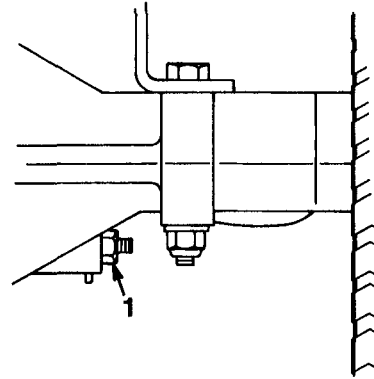

Figure 25
The brake is on the right side of the rear axle, inside the rear tire (Fig. 25). If the brake does not hold securely or stopping power is insufficient, an adjustment is required.
2. To increase braking resistance, tighten the brake adjusting nut (Fig. 25) 1/8 turn clockwise; then check the brake again. Continue this adjusting and checking process until the brake is set properly.